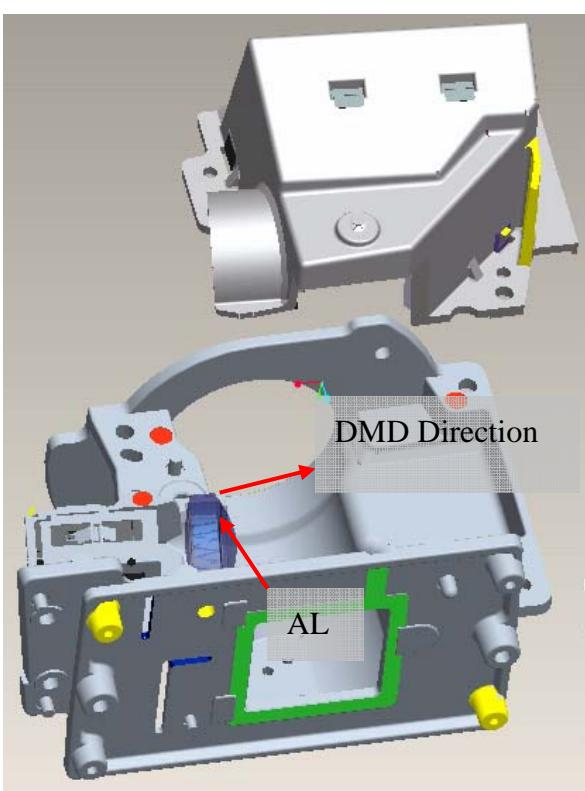

Fig. 7-1
7.1 Placed "AL" on the HSG DMD .The "raised surface" of "AL" shall toward "DMD direction" (Fig. 7-1)